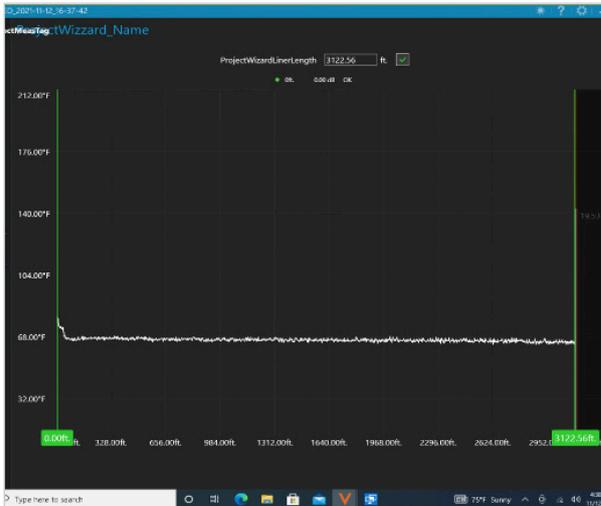

Figure 8: Calibrate fiber footage
- Click back on calibration icon – enter liner footage on top - click green check, then click green check bottom right Figure 8) which will then save information and move to QR Code information.